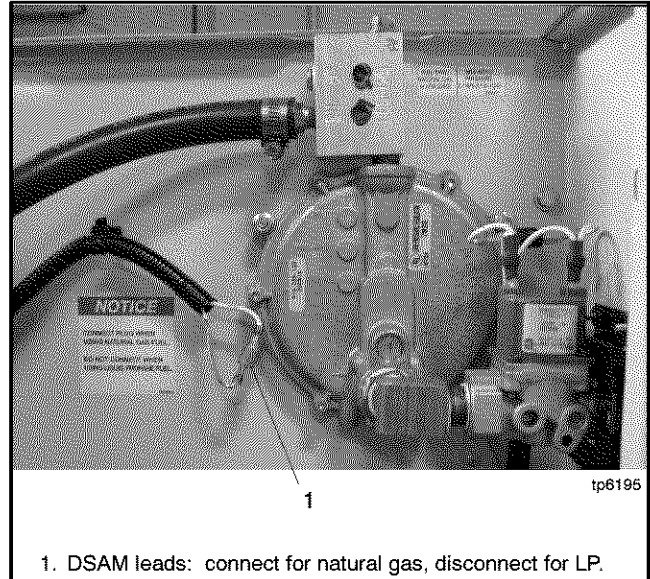

Figure 6-12 Digital Spark Advance Module (DSAM) Leads (located in generator set air intake area)
10. For the 12RES only: Connect the digital spark-advance module (DSAM) leads together for natural gas. (Disconnect the leads for LP.) See Figure 6-12.
To convert from LP vapor to natural gas, follow the same fuel conversion procedure, moving the hose fitting to the natural gas port and plugging the LP port. For the 12RES model, disconnect the DSAM leads for LP vapor. See Figure 6-12.